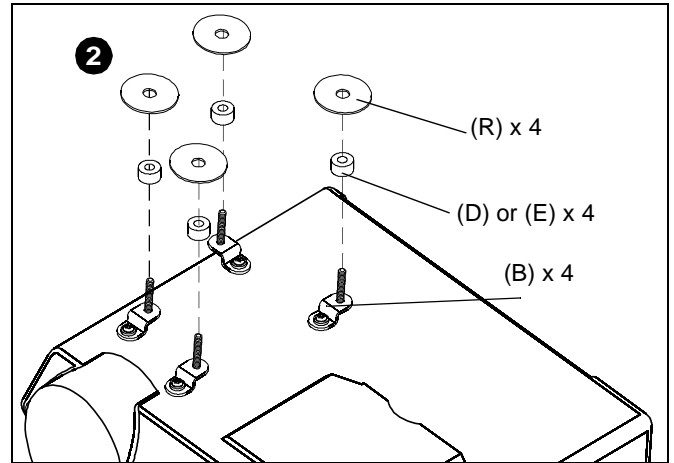

Figure 9
- Add fender washers (R) to the projector security legs (B). Add spacers (D or E) as necessary to the projector security legs (R). (See Figure 9)